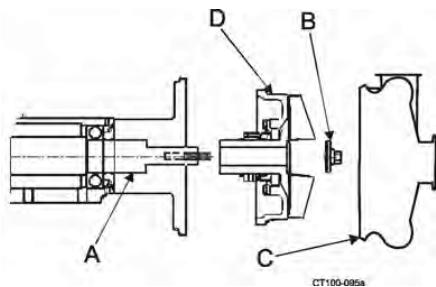

Figure 60 - Installing Impeller Assembly
11. Install the impeller key. (Figure 60, item A).
12. Install the o-ring on the impeller retainer bolt. (Figure 60, item C).
13. Install the impeller retainer nut and tighten. (Figure 60, item B).